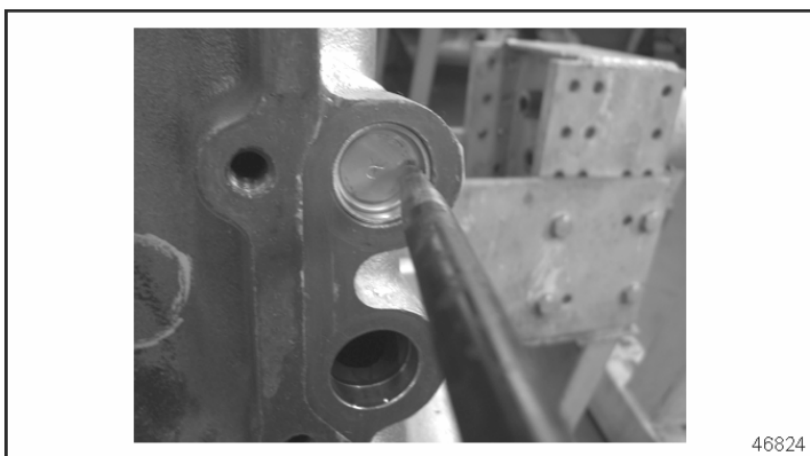

Figure 2 Proper Location of Punch to Turn Plug Sideways
- a) Use a punch or chisel to hit the bottom of the cup plug near one side to turn it sideways. See Figure 2.